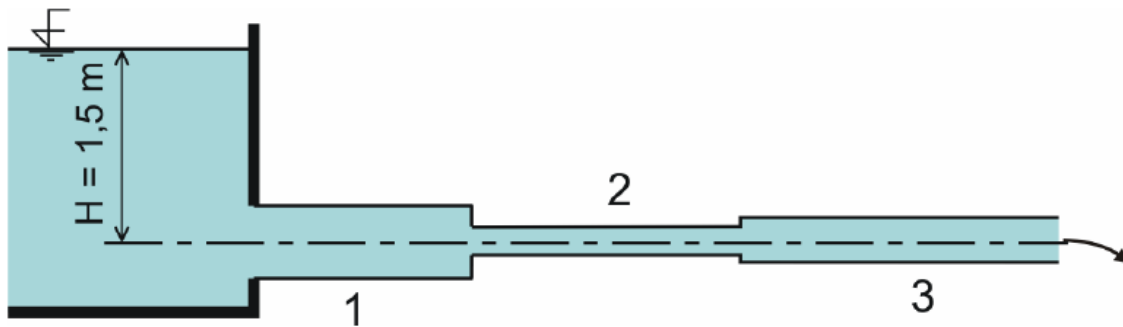

Figure 7:
Example 2: A horizontal pipeline is attached to the wall of reservoir (see figure 7). The pipeline has different profiles. The water level in the upper reservoir is in the height $H = 1.5 \text{ m}$ above the pipeline axis. From the lower end of the pipeline water flows out to the open space. Diameters and lengths of pipeline reaches are: $D_1 = 0.24 \text{ m}$, $L_1 = 3 \text{ m}$, $D_2 = 0.1 \text{ m}$, $L_2 = 1 \text{ m}$, $D_3 = 0.12 \text{ m}$, $L_3 = 2 \text{ m}$. Calculate discharge in the pipeline and draw the course of energy line (EL) and pressure line (PL).